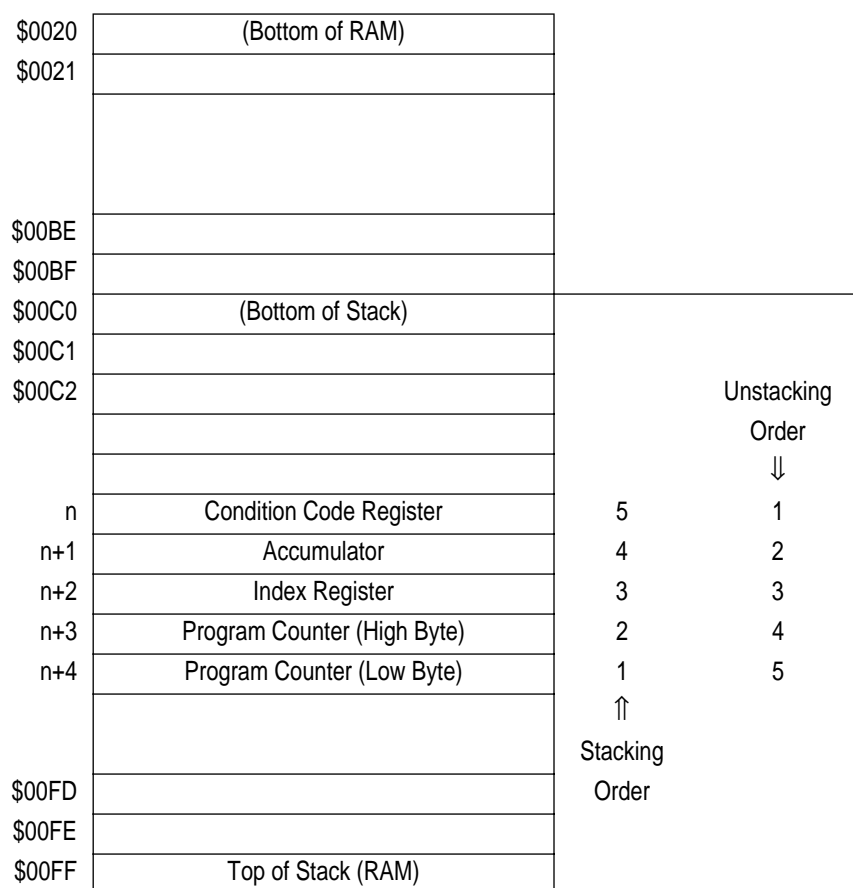
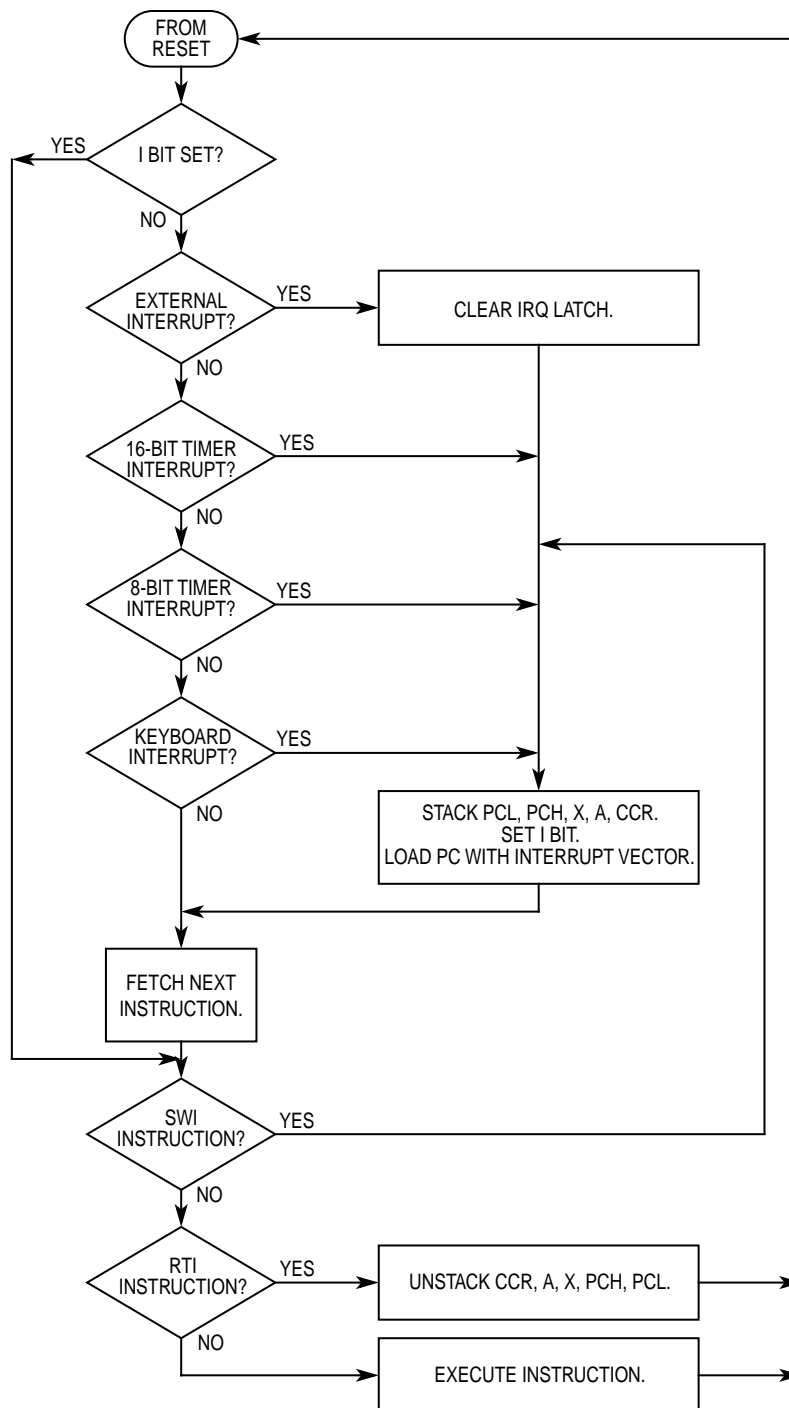

Figure 4-1. Interrupt Stacking Order
Figure 4-2. Interrupt Flowchart
- Stores the CPU registers on the stack in the order shown in **Figure 4-1**
The return from interrupt (RTI) instruction causes the CPU to recover its register contents from the stack as shown in **Figure 4-1**. The sequence of events caused by an interrupt is shown in the flow chart in **Figure 4-2**